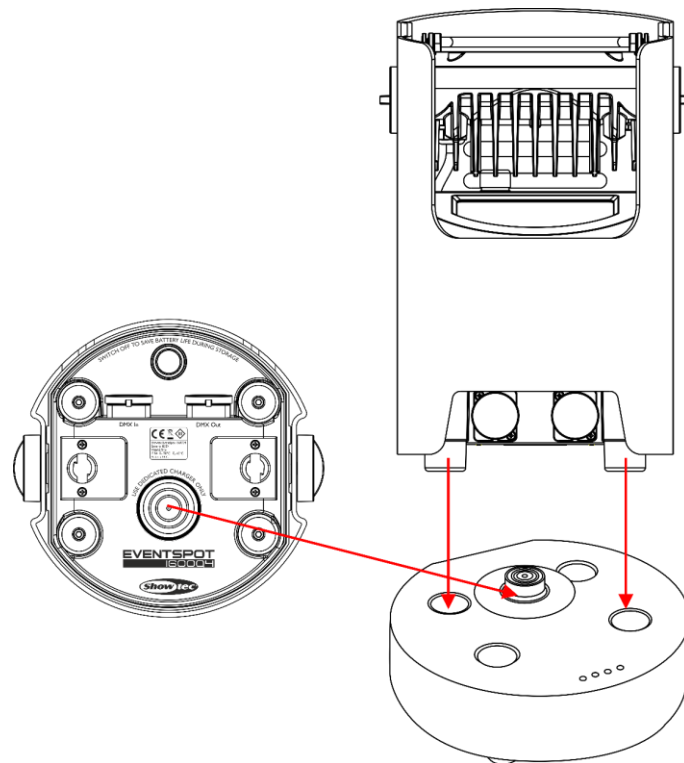

Fig. 04
- 03) Connect the EventSpot to the charger (fig 04).
- 04) Please make sure that the battery socket from the EventSpot covers the socket from the charger (fig 04).